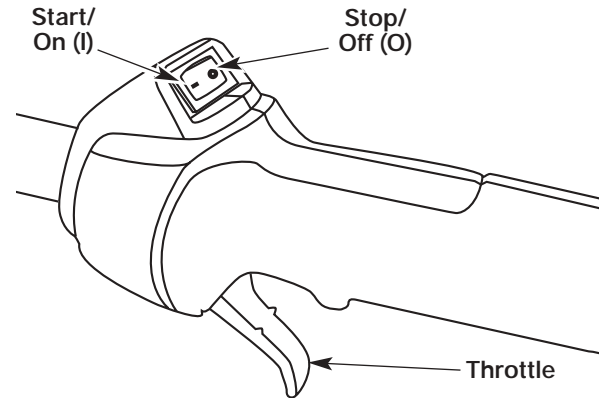

Fig. 6
2. Make sure the On/Off Stop Control is in the ON (I) position (Fig. 6).
2. Put the On/Off Stop Control in the OFF (O) position (Fig. 6).